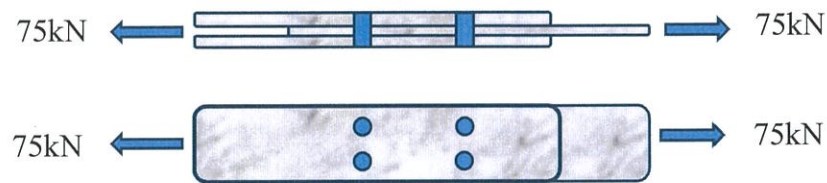

Figure 3(a) / Rajah 3(a)
- CLO2 (a) Four (4) rivets are used to connect three plates as shown in Figure 3(a). If the connection can resist 75kN of forces and shear stress in the rivet is 200MN/m^2 , determine diameter of the rivets.